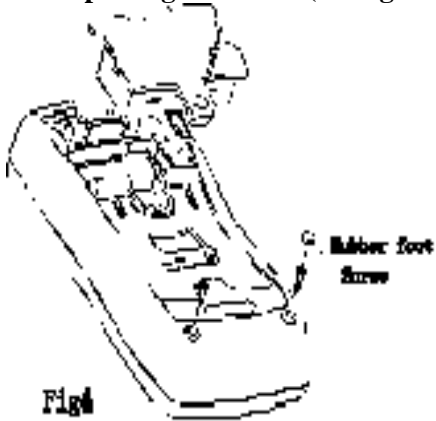

Fig 4
D. Replacing the Fuses (see figure 4)